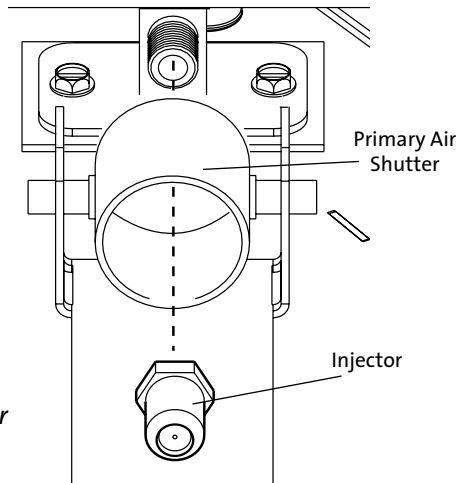

Figure 7.3.
6. **Change the Burner Injector.** See fig. 7.3. Using a 1/2" open end wrench or deep-well socket remove the burner injector from the brass elbow and replace it with the injector supplied in the conversion kit.